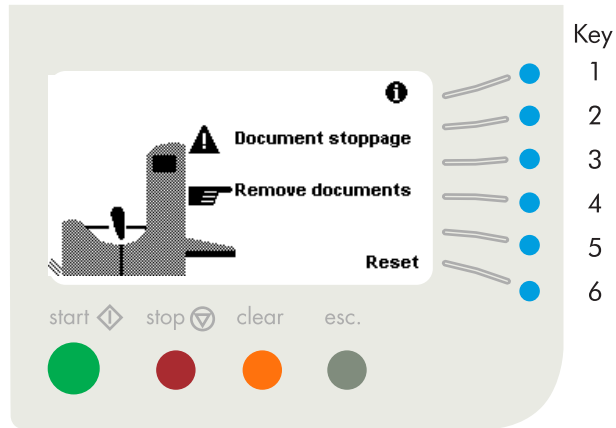

Fig. 49
When a paperflow error occurs the display shows a screen as in fig. 49 (for example). The menu shows the following functions:
Reset the error after solving the problem with (key 6) (see fig. 49).